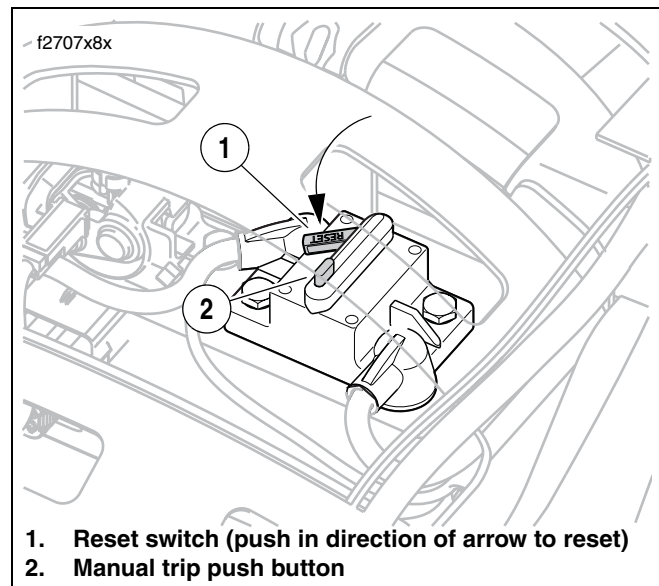

Figure 3. Reverse Motor Circuit Breaker
1. See Figure 3. The circuit breaker is located under the passenger seat. This manually resettable circuit breaker has a trip push button (2) and a reset switch (1). To manually trip the circuit breaker, push down on the trip push button (which causes the reset switch to extend out).